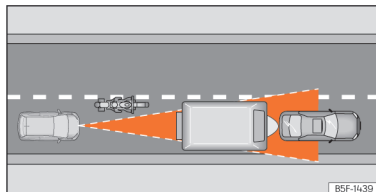

Fig. 105 Motorcyclist ahead out of range of the radar sensor.
- Vehicles that are not aligned while driving or that are outside the sensor's detection area, such as motorcycles »» **Fig. 105**.